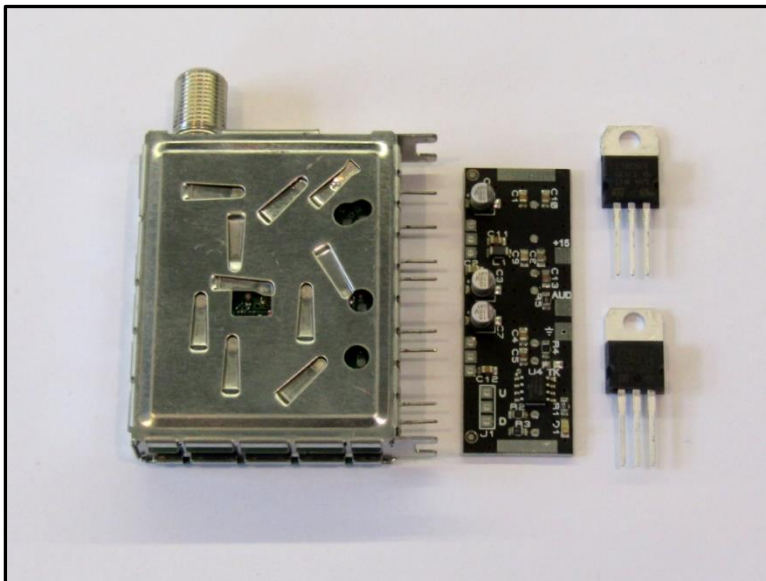

Figure 1: Individual kit components.
1. Identify the four parts of the kit. They comprise the satellite tuner can, a PCB and two voltage regulators, 7805 and a 7812. See figure 1.